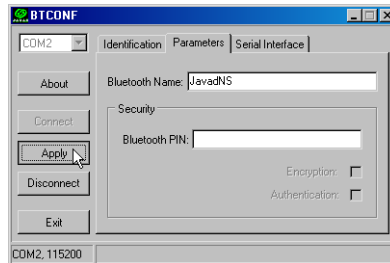

Figure 2-41. BTCONF Parameters Tab
6. Click the Parameters tab (Figure 2-41). The Parameters tab sets identifying and security information for your Bluetooth module. The security section allows you to set data security and unauthorized access parameters for the Bluetooth module.
7. Enter up to 14 characters to set a unique name for the Bluetooth module (Figure 2-41), and click Apply.